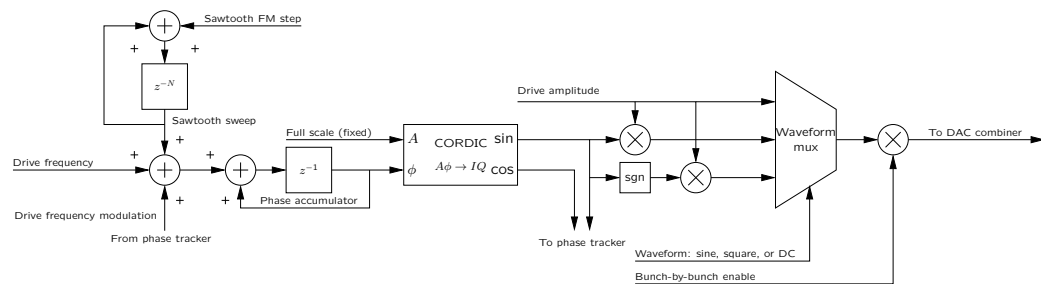

Figure 15: Drive source block diagram
Three independent drive sources are available in iGp12-1332F FPGA, 0, 1, and 2. Each source is based on a **numerically controlled oscillator (NCO)** with sawtooth **frequency modulation (FM)** capability and bunch-by-bunch enable. Four output waveform types are supported: sinusoidal, square, triangular, and **direct current (DC)**. Block diagram of a drive source is shown in Figure 15.